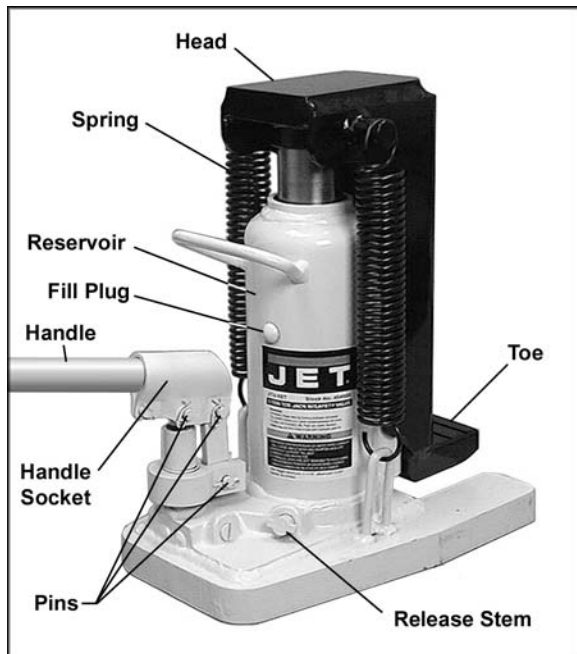

Figure 1 (5-ton model shown)
To raise the jack (see Figure 1):
1. Lubricate the pins (Figure 1) with a few drops of machine tool oil monthly.
2. Remove the fill plug (Figure 1).